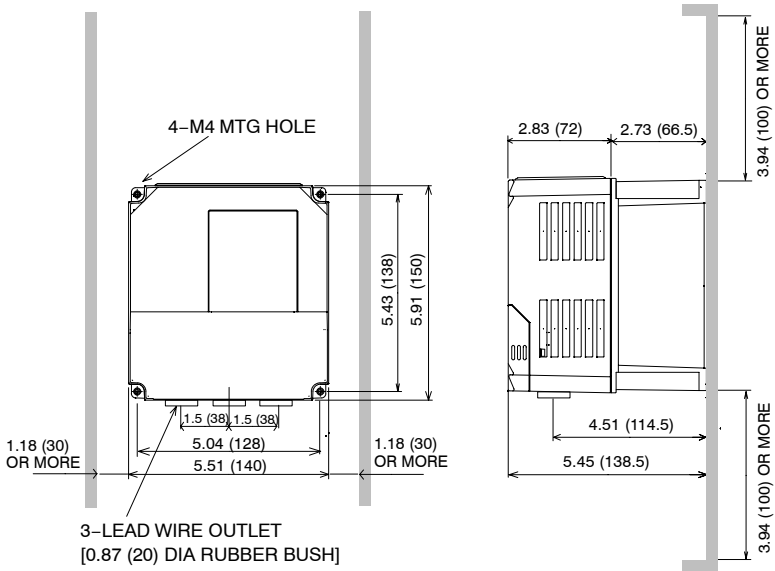

Fig. 1 Braking Unit Dimensions in inches (mm) CDBR-2015B, -2022B, -4030B, -4045B
Figs. 1 to 8 show the external dimensions and the spaces from the periphery.
- Provide the spaces shown in Figs. 1 to 8 between the units and the periphery.
- Install the units in the directions shown in Figs. 1 to 8. There will be no problem if they are installed vertically.